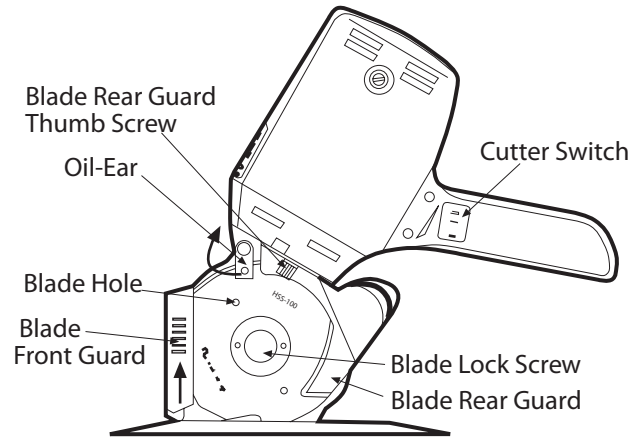
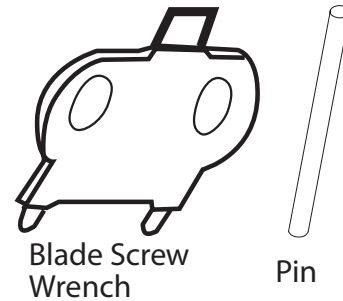

Figure 1. 4" Rotary Cutter Front View
Figure 3. Special Tools
Operation (See Figure 1)
1. Put a drop of machine oil in the hole on the oil-ear (see Figure 1) once a day if you use the cutter every day. Otherwise put a drop of oil in the hole on the oil-ear before every use of the cutter.
2. Remove the blade front guard by pulling it upward, and turn the oil-ear outward as shown in Figure 1.
3. Remove the blade rear guard by loosening its thumb screw (see Figure 1).
- Use the blade screw wrench shown in Figure 3 to loosen the blade lock screw counter clockwise. If the blade turns with the lock screw, you can stop it by inserting one end of the pin (see Figure 3) through the hole in the blade at the location as shown in Figure 1. There is a hole at the blade seating at that location.
1 special wrench (see Figure 3) for blade lock screw; 1 pin, 1 syringe of grease; 1 extra octagon blade, 1 grinding stone, 1 pair of motor brushes, 1 brush screw.